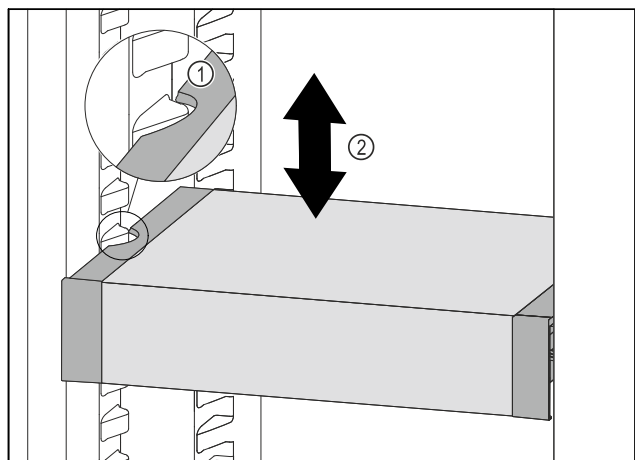

Fig. 108
- ▶ Pull VarioSafe forwards until the recesses in the side of the VarioSafe are at the level of the support rib in the refrigerator compartment. Fig. 108 (1)
- ▶ Move VarioSafe up or down in the refrigerator compartment until the desired height is reached. Fig. 108 (2)